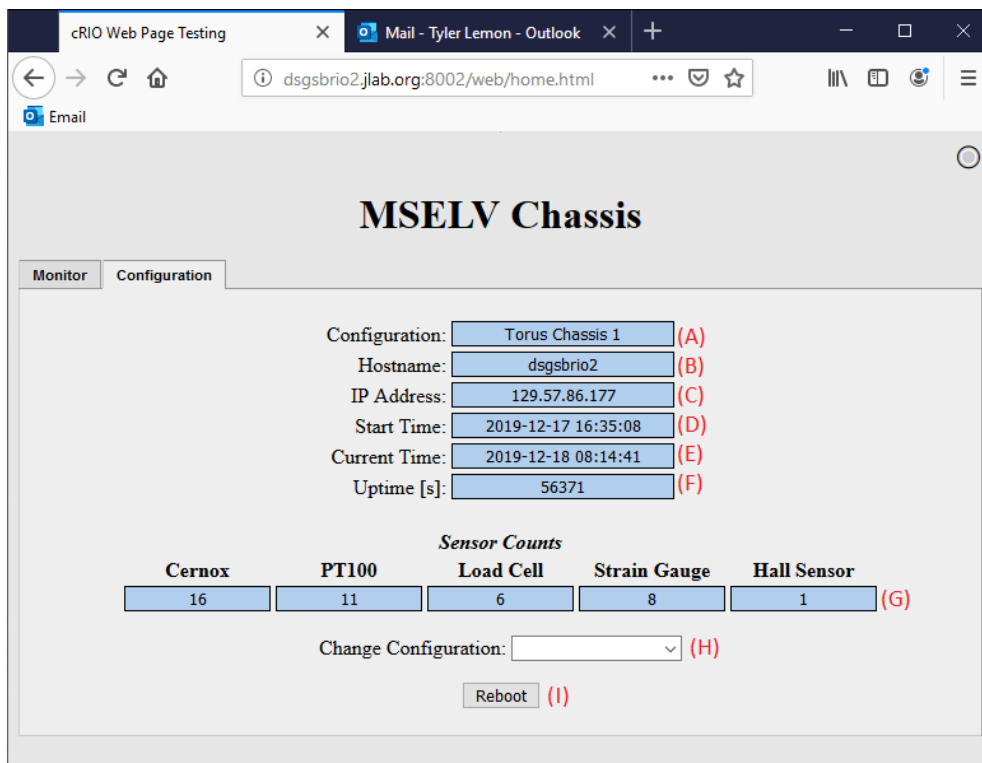

Fig. 1 MSELV Chassis sbRIO configuration and system information page.
- Selectable by control designated by (H) in screenshot shown in Fig. 1
- Reboot controlled by button designated by (I) in Fig. 1
- ★ Added system information indicators, Fig. 1
- Chassis configuration loaded (A)
- Hostname (B)
- IP address (C)
- Program start time (D)
- Current sbRIO time (E)
- Number of seconds program has been running (F)
- Quantity of each sensor type (G)